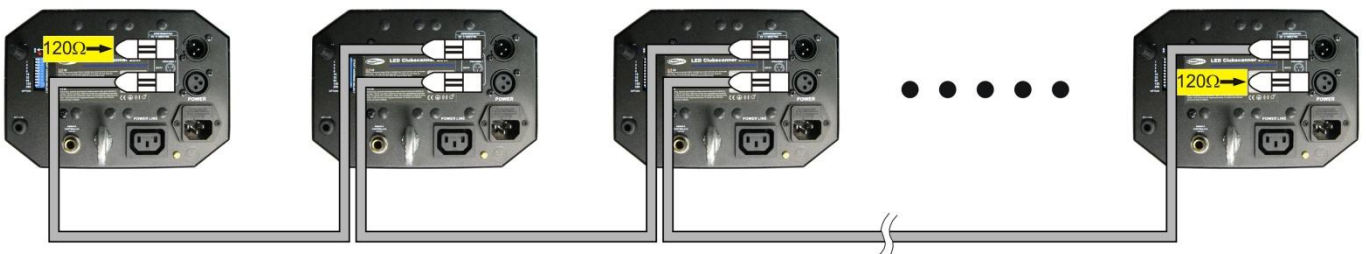

Fig. 3
3. Link the units as shown in (Fig. 3), Connect a DMX signal cable from the first unit's DMX "out" socket to the second unit's "in" socket. Repeat this process to link the second, third, and fourth units. You can use the same sound-control function on the master device as slave devices. This means on the master device you can set your desired operation Mode and all slave devices will react the same as the master device.